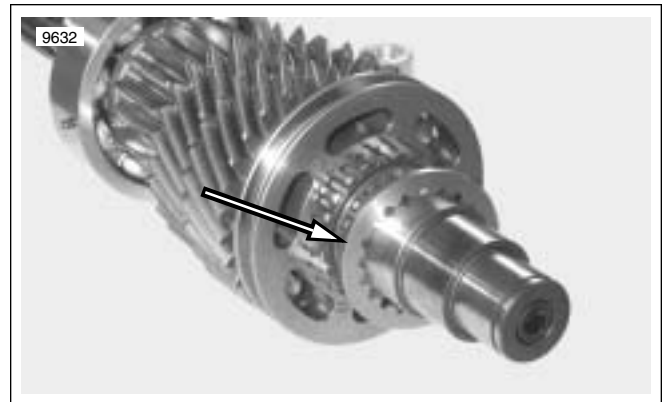

Figure 7-43. Splined Thrust Washer
6. See Figure 7-43. Remove the splined thrust washer.